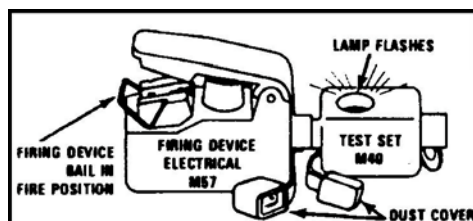

Figure 2. Circuit test of the M57 firing device and M40 test set.
2. Conduct a circuit test at the firing point (Figure 2).